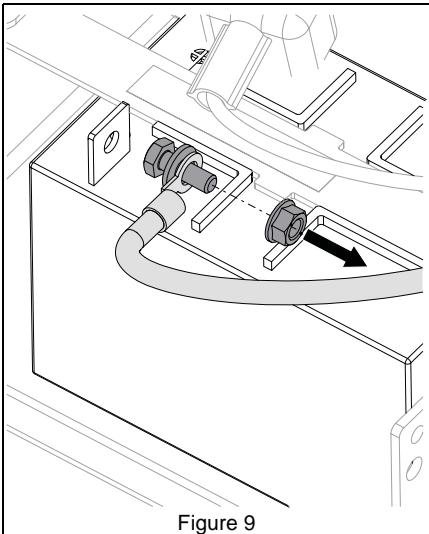

Figure 9
1. Remove the hex bolt, hex nut and flat steel washer from the negative battery cable. Retain hardware. See Figure 9.